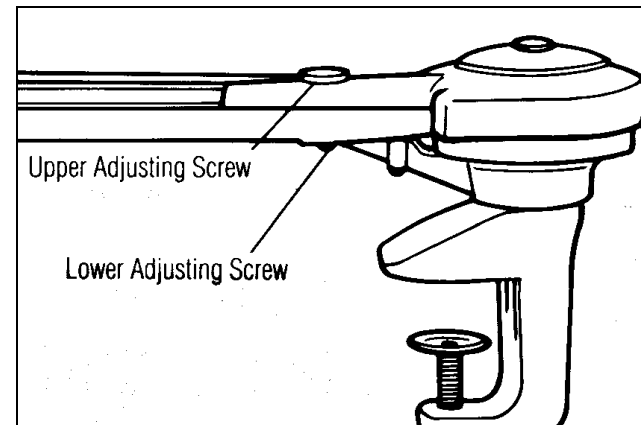

Figure 12
3. The elbow elevation is controlled by means of the adjusting screws as shown on Fig. 12. First loosen the lower screw slightly with a screw-driver, then loosen the upper screw by hand a half turn or so. Now adjust the elbow by means of the lower screw, using the screw-driver. Loosening this screw lowers the elbow, while tightening it raises the elbow. It is best to support the elbow by hand while adjusting this screw in order to take the load off the lower screw.